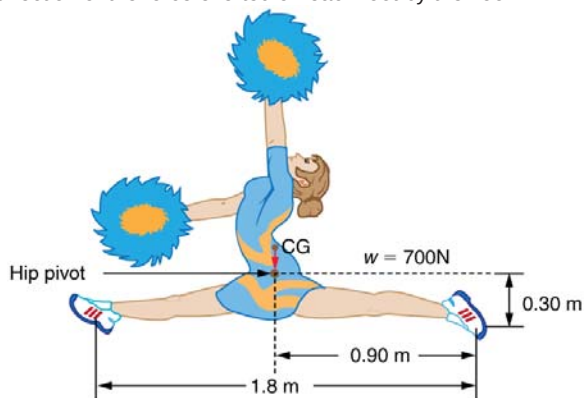

Figure 9.35 A gymnast performs full split. The center of gravity and the various distances from it are shown.
16. A gymnast is attempting to perform splits. From the information given in **Figure 9.35**, calculate the magnitude and direction of the force exerted on each foot by the floor.